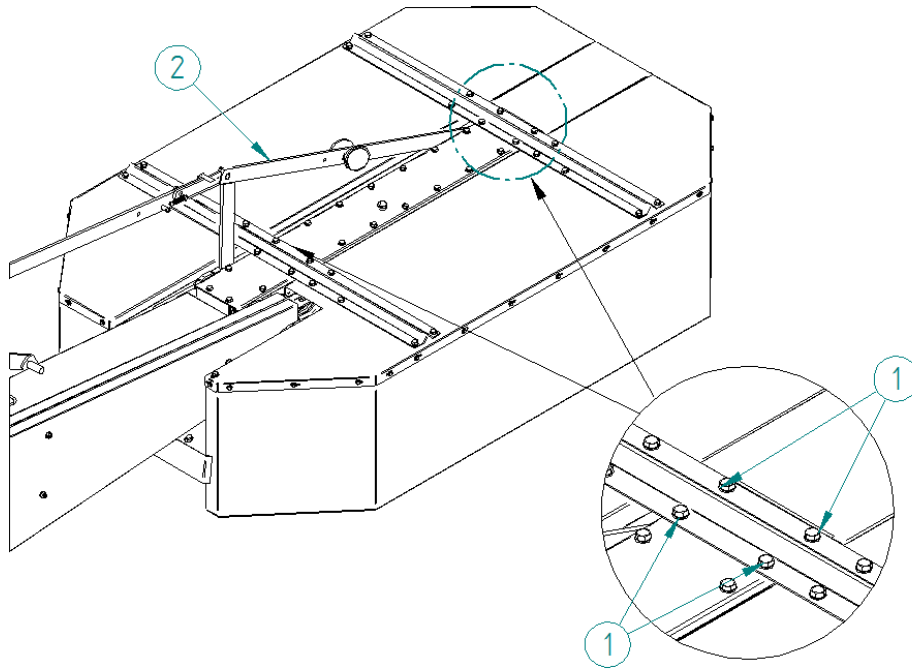

Figure 4 Metal guard assembly
- I) A fully twisted guard (mounting is shown in section "13.2.7 Guard assembly" must be placed on the cutting unit cover after prior removal of the screws (Fig. 4 item 1) and the rod assembly (Fig. 4 item 2).
- II) Attach the guard to the machine in order after the removal of screws (Fig. 4 item 1):